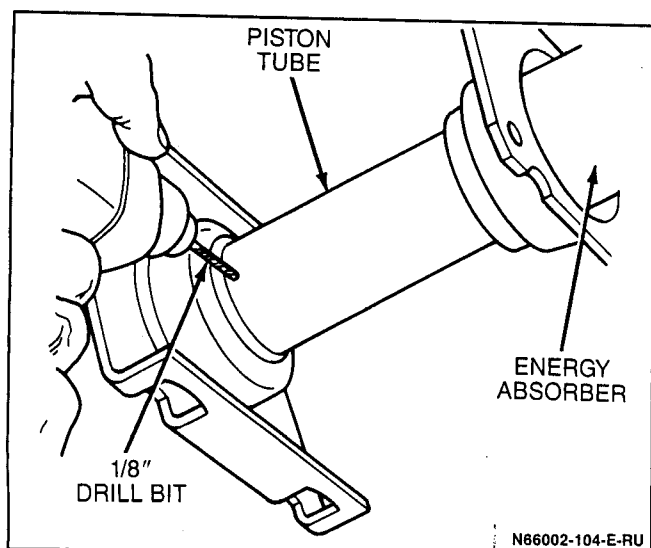

Figure 10-4-2 Scrapping EA Unit
- If unit is bound-up as a result of a collision such that it cannot extend, take precautions to avoid spring-back when bending sheet metal. Provide a positive restraint, such as a chain or cable to hold the bumper in the position it is in. Wear safety glasses and drill a small hole in the piston tube near the bumper bracket to relieve gas pressure, Figure 10-4-2. Remove the EA units after gas pressure has been relieved.
3. Wear safety glasses and drill a small hole in the piston tube near the bumper bracket (Figure 10-4-2), to relieve gas pressure.